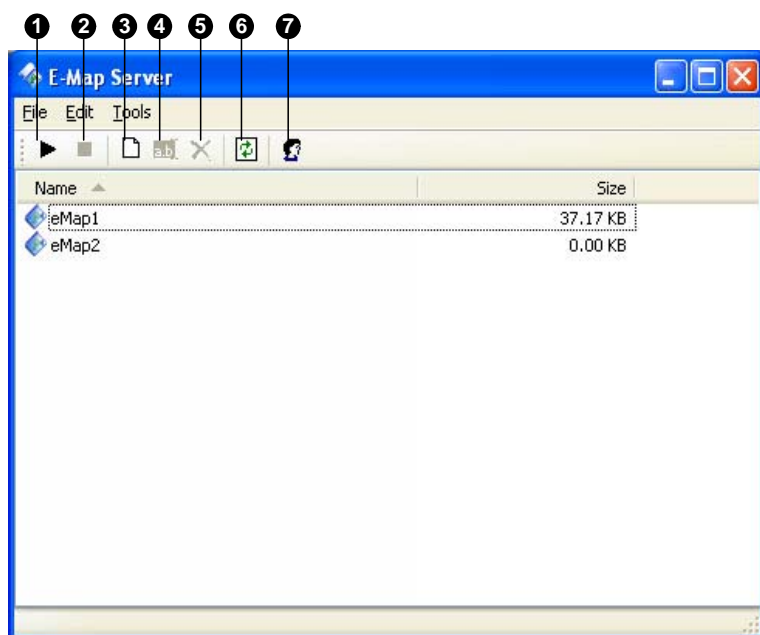

Figure 7-10
1. Click the **New** button (No.3, Figure 7-10) to create e-map(s). For details on creating an e-map file, see "Creating an E-Map File," earlier in this chapter.
2. Click the **Accounts** (No. 7, Figure 7-10) button to create a user account that will use the server.